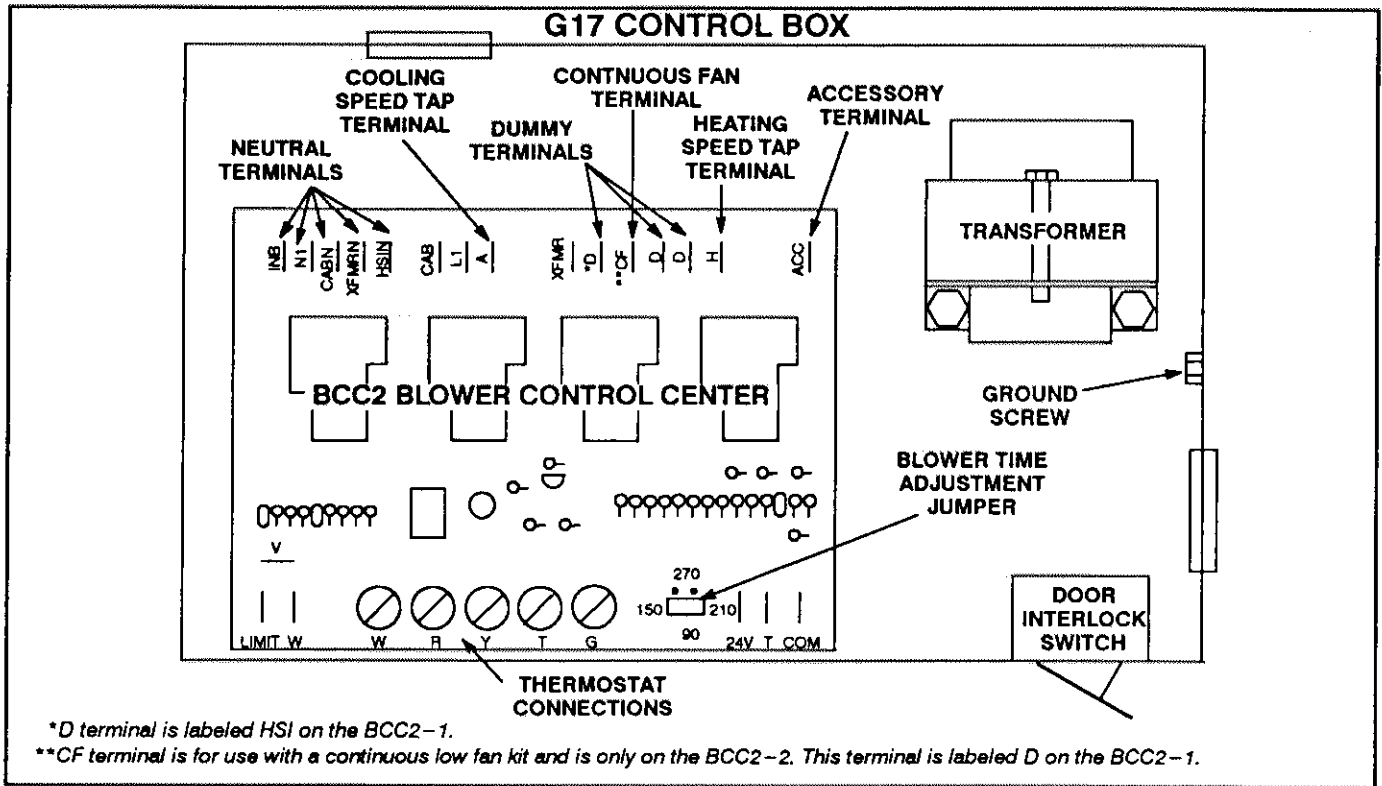
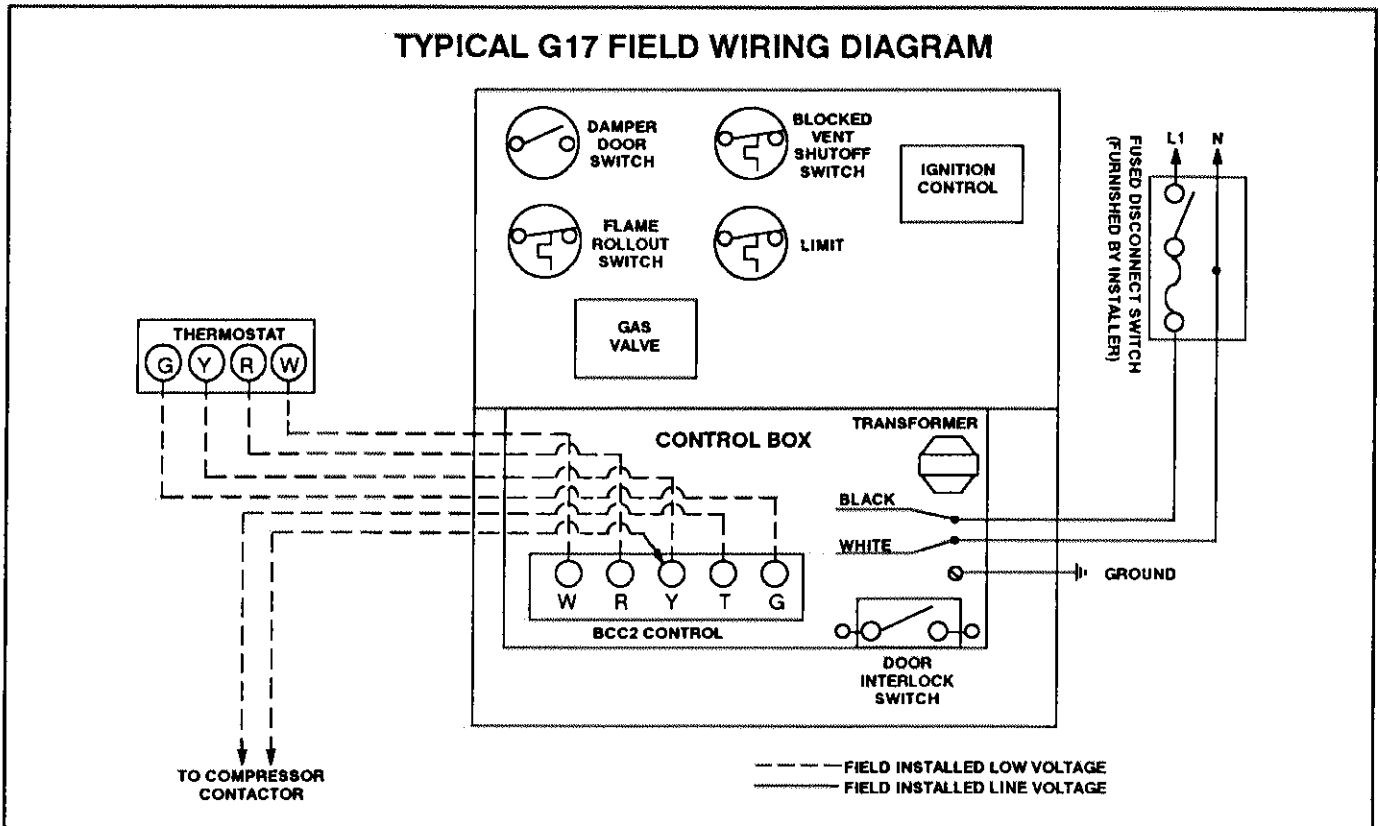

FIGURE 10
FIGURE 11
Refer to figure 10 for control box layout, figure 11 for point to point field wiring and figure 12 for schematic wiring diagram and troubleshooting.
- 8— A 120 volt accessory terminal (ACC) is provided on the BCC2 blower control center. Any accessory rated up to 1 amp can be connected to this terminal and the neutral leg of the accessory can be attached to any free 120 volt neutral terminal on the BCC2 blower control center. The accessory terminal is energized whenever the blower is in operation. See figure 10. A troubleshooting flowchart for the BCC2 blower control is located in figure 31.
- 9— The continuous fan (CF) 120 volt terminal is used with an optional continuous low fan kit that is available from Lennox. The kit allows the furnace blower to run continuously on low speed. The kit cannot be used on units without a CF terminal on the BCC2 board.